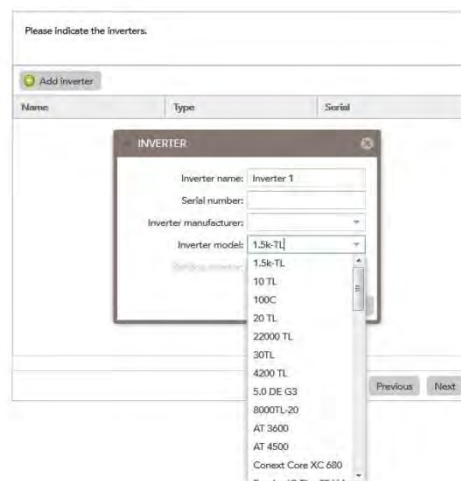

Figure 42: Adjusting inverters.
3. The inverters of the plant are set up in the next window (Figure 42). Click "Add Inverter" and use your documentary to fill in the necessary data. Confirm your entry for this inverter by clicking "Save". Do the following for all Inverters in the plant and select "Next".